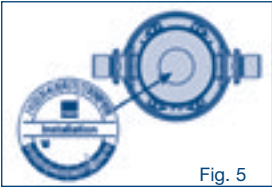

Fig. 5
- 6. Mark the date (month/year) of installation on the installation plate supplied and glue it to the filter head (see Fig. 5).